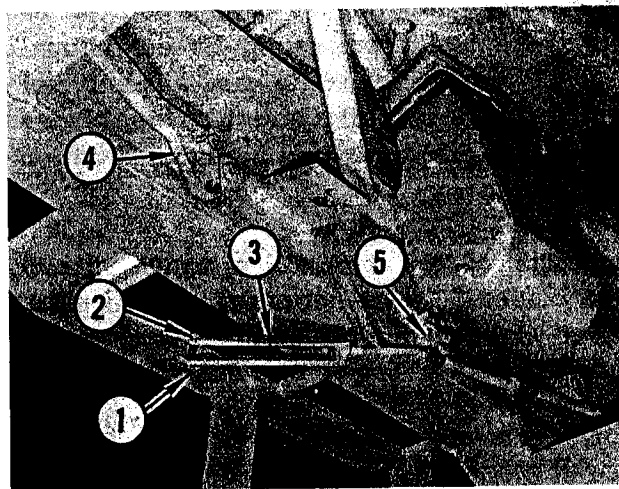

FIGURE 18. LINKAGE DISCONNECTS
Refer to Figure 18. Remove cotter pin (1) from drilled pin (2). Remove drilled pin to disconnect parking brake cable turn buckle (3) from brake lever bell crank (4). Remove capscrews from cable clamp (5).